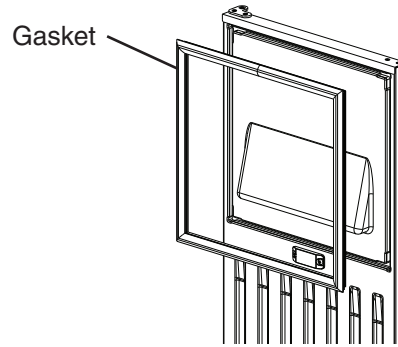

**Fig. 15**
- f) Remove hinge (C1) from the top right part of the door, flip it and reattach to the bottom left. Remove hinge (C2) from the bottom right part of the door, flip it and reattach to the top left. See Fig. 15. Proceed to step 7.